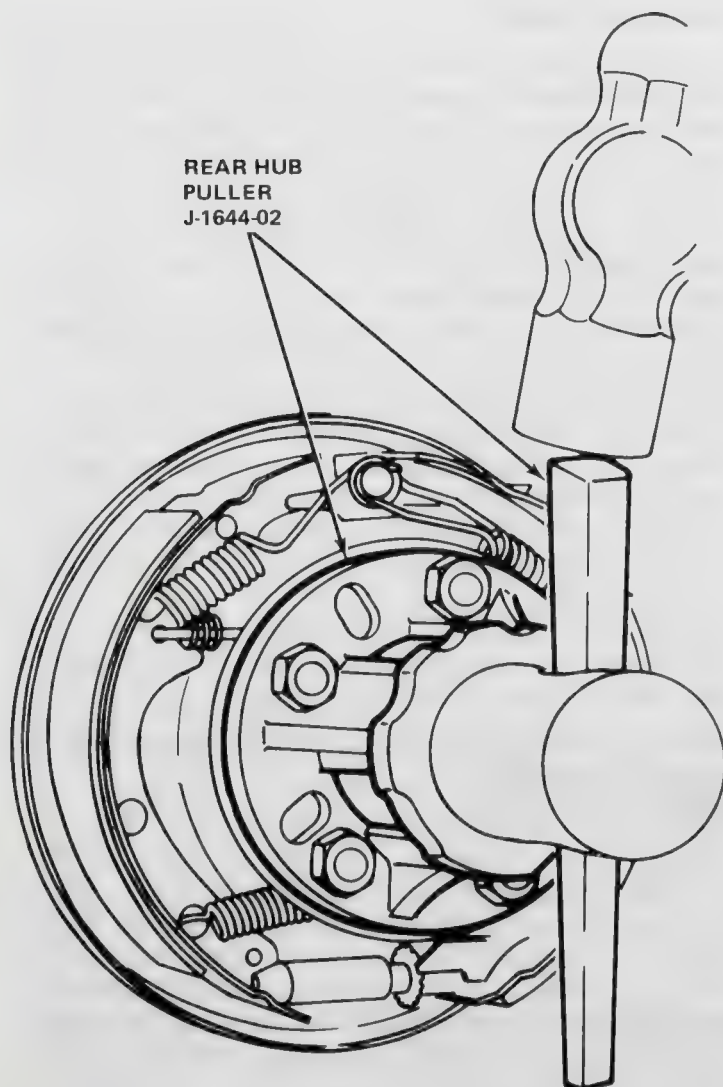

Fig. 2E-3 Axle Hub Removal
- (2) On cars equipped with standard wheels, remove hub cap.
(3) On cars equipped with styled wheels with bolt-on hub caps, raise car, remove wheel, remove hub cap retaining bolts and hub cap, reinstall wheel, and lower car.
(4) Remove and discard cotter pin retaining axle shaft nut.
(5) Remove axle shaft nut.
(6) Raise and support rear of car.
(7) Remove wheels and remove brake drum retaining screws.
(8) Release parking brakes.
(9) Remove brake drum. If drum is difficult to remove, retract brakeshoes by backing off adjuster screw. Use section of welding rod to unseat adjuster lever before turning adjuster screw.
(10) Remove axle hub using Puller Tool J-1644-02 (fig. 2E-3).